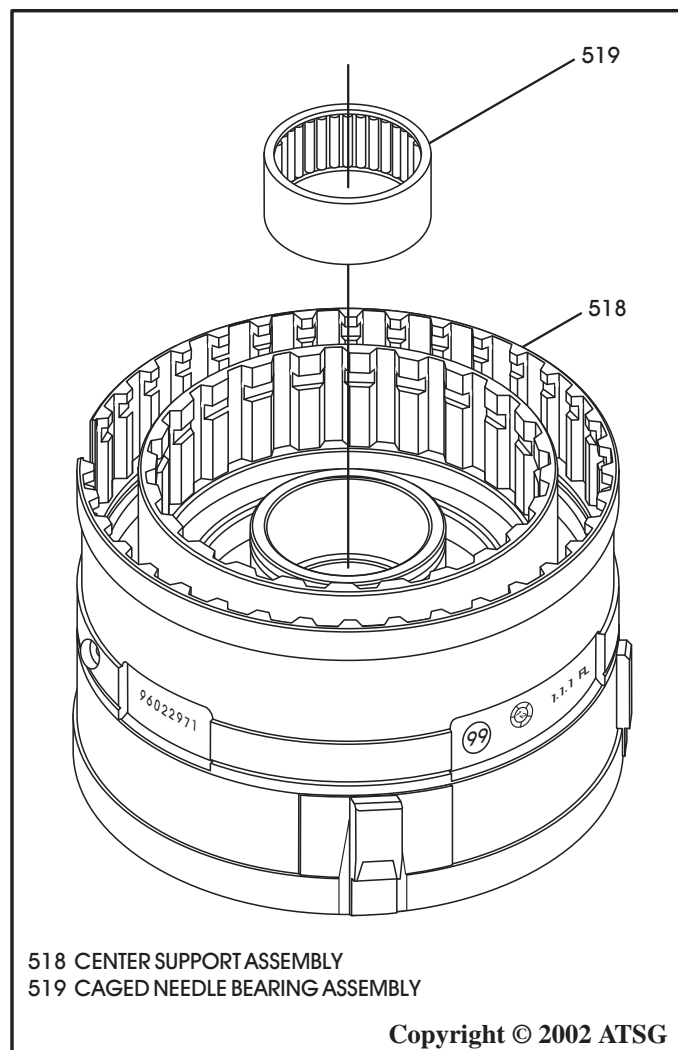

Figure 132
4. Replace the caged needle bearing as necessary, using the proper puller and proper diameter installer (See Figure 132).